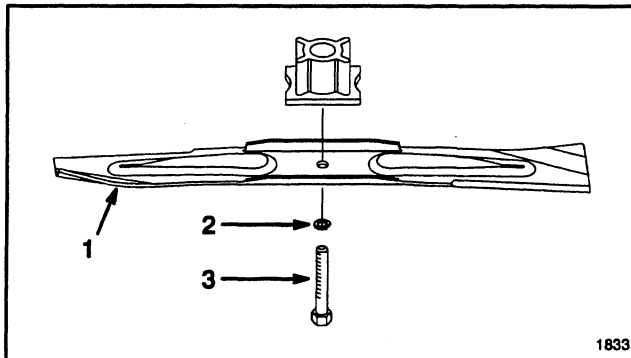

Figure 20
5. REMOVING BLADE—Grasp end of blade using a rag or thickly padded glove. Remove blade bolt, lockwasher and blade (Fig. 20).